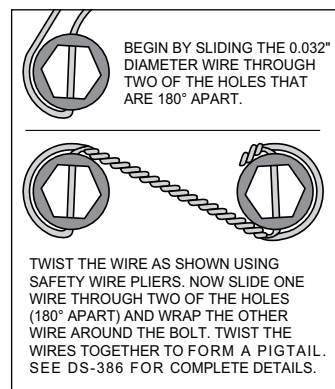

Figure 3
STEP 3 Orient the rotor (7) and the hat (8) as shown in Figure 1 and Photo 3. Attach rotor to hat using bolts (9) and washers (10). Apply red *Loctite*® 271 to the bolt threads and torque to value shown in Figure 1 using a criss-cross pattern. For an added measure of security, the bolts may be safety wired using standard 0.032 inch diameter stainless steel safety wire as shown in Figure 3. Refer to Wilwood's data sheet DS-386 (available at www.wilwood.com/Pdf/DataSheets/ds386.pdf) for complete safety wire installation instructions.